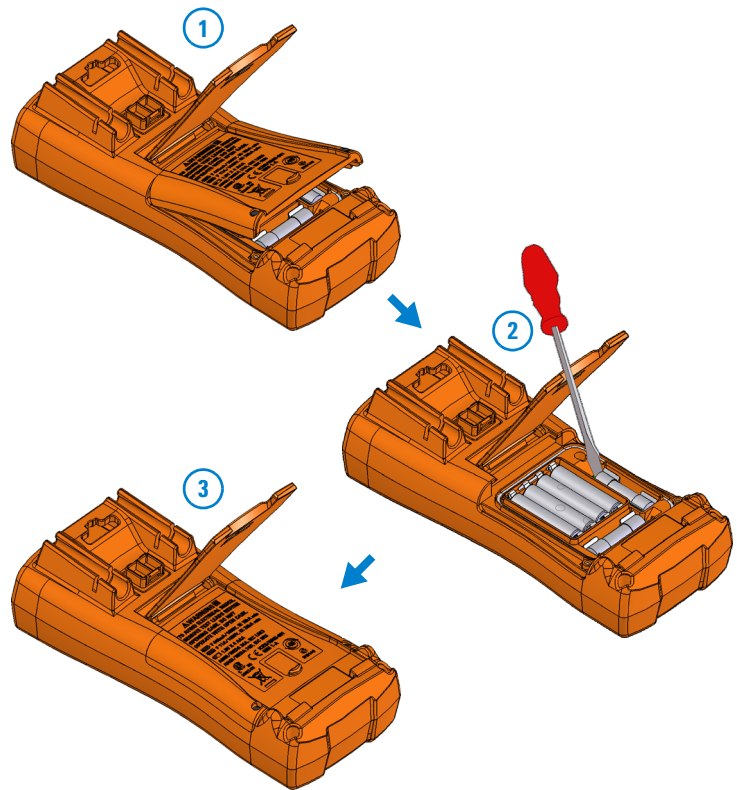
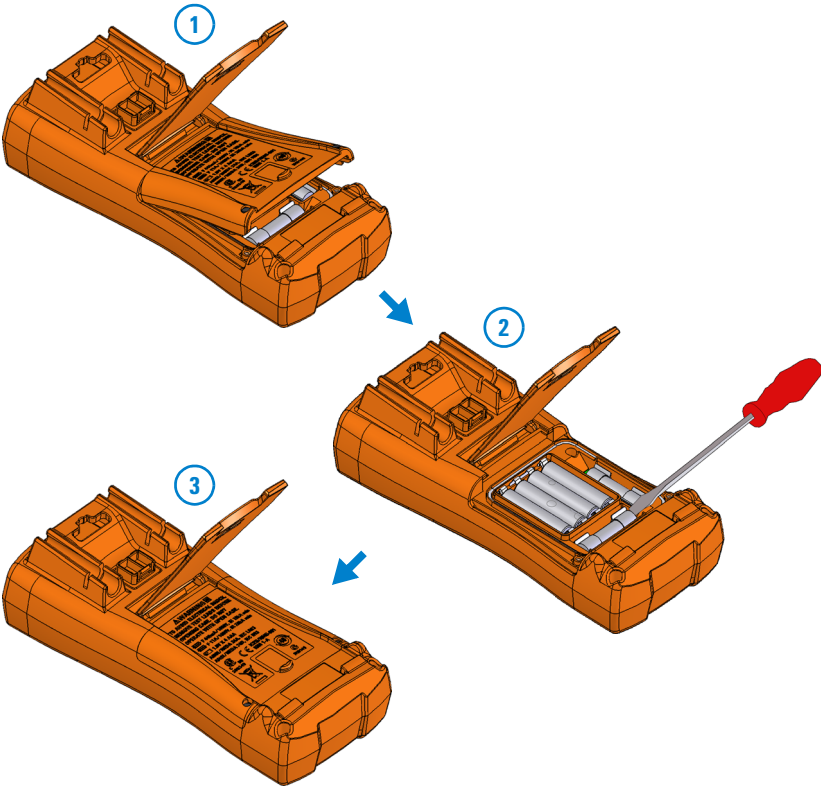
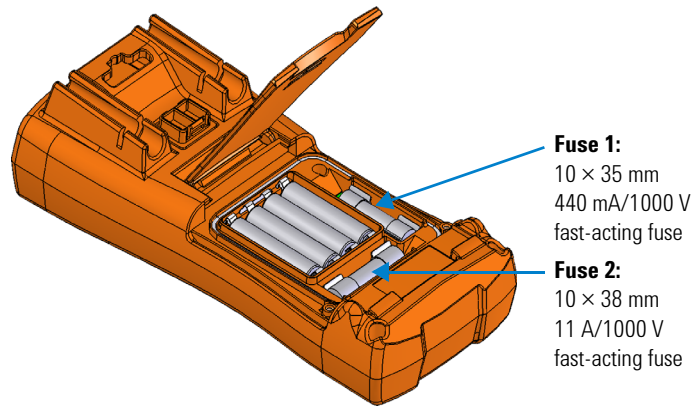

Figure 2-3 Replacing Fuse 1
Figure 2-4 Replacing Fuse 2
Figure 2-5 Positions of Fuse 1 and Fuse 2
Refer to Figure 2-5 for the respective positions of Fuse 1 (10 × 35 mm, 440 mA/1000 V fast-acting fuse) and Fuse 2 (10 × 38 mm, 11 A/1000 V fast-acting fuse).
- 2 Locate the faulty fuse.** Fuse 1 (see Figure 2-3) is located to the right of batteries, and Fuse 2 (see Figure 2-4) is located at the bottom of the batteries. See Figure 2-5 for the specific location, size, and ratings of Fuse 1 and 2.